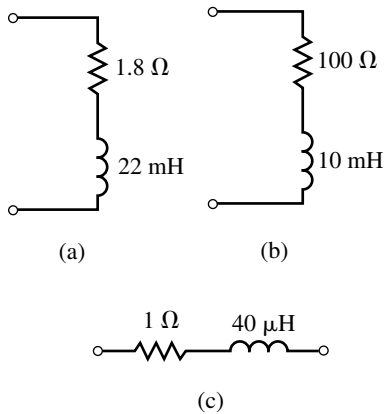

FIGURE 21-59
16. Consider the series networks of Figure 21-59.